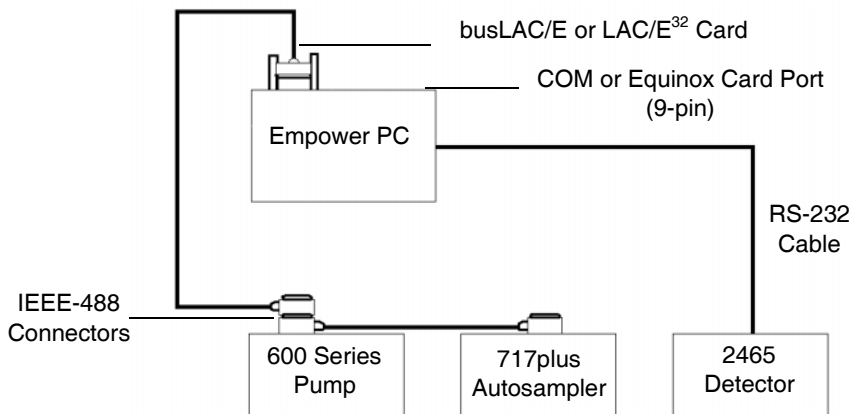

Figure 2-17 IEEE-488 and RS-232 Connections in a Waters Empower System
4. Ensure all input/output connections are correct, as in the example diagram in Figure 2-17.